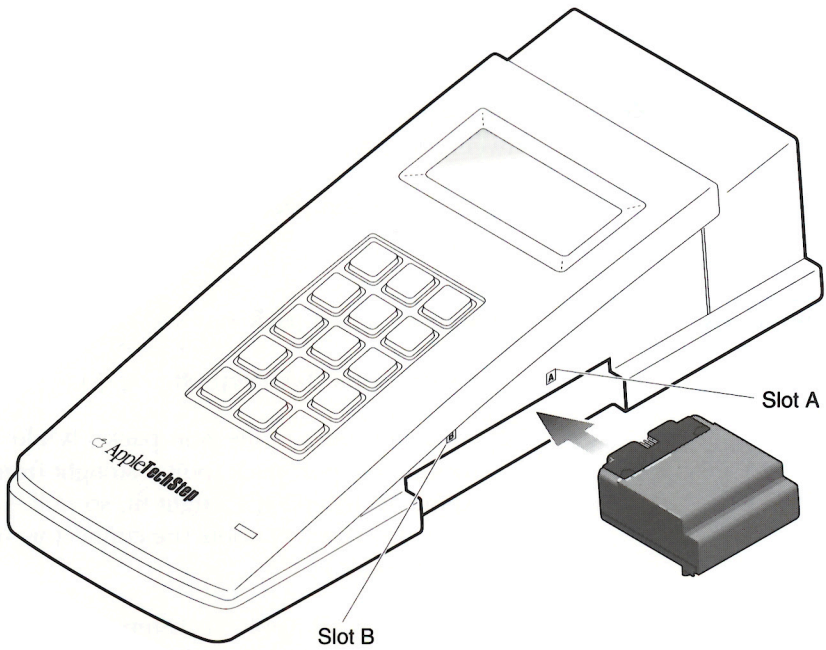

Figure 3-1 **Installing a ROM Pack**
2. Slide the ROM pack, label side up, into the ROM A or ROM B slot at the right side of Apple TechStep, as Figure 3-1 shows.